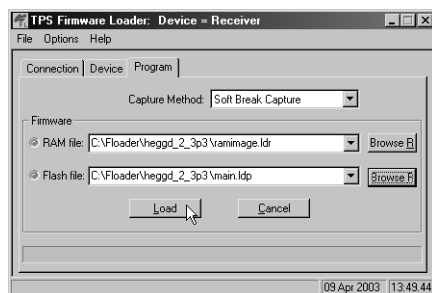

Figure 3-23. Program Tab Settings
- Click the **Program** tab and set the *Capture Method* to Soft Break Capture (recommended) (Figure 3-23).
- Browse for and select the receiver board’s RAM and Flash files (Figure 3-23).